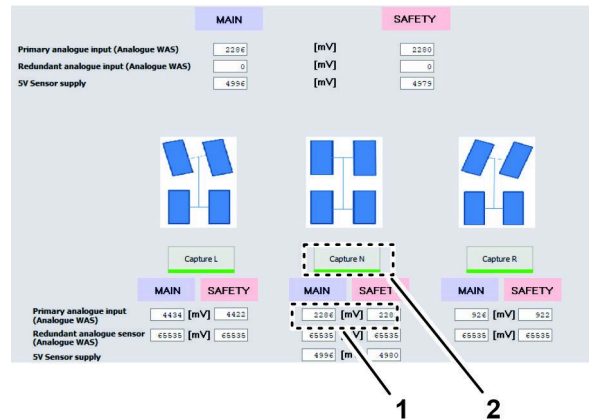

Figure 150
8. Click the CAPTURE N icon (Figure 150).